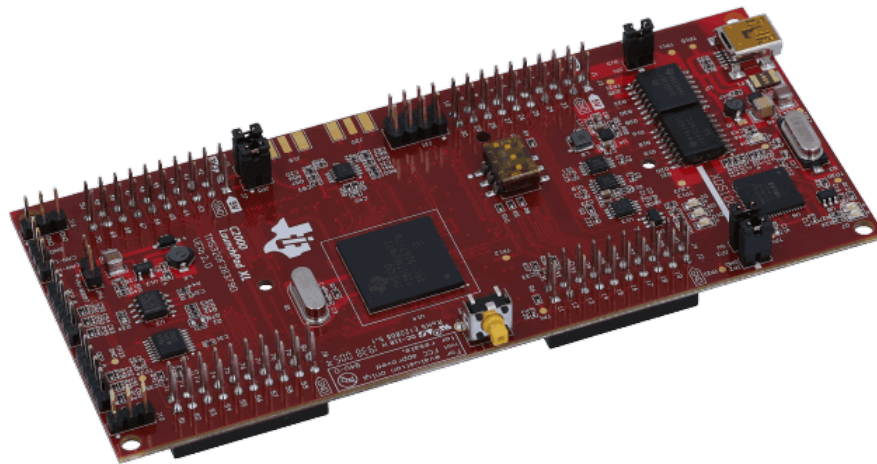

Figure 37: Texas Instruments F28379D LaunchPad
The controller stage of the CRD200DA23N-GMA inverter system was designed around the F28379D LaunchPad™ (LAUNCHXL-F28379D) from the Texas Instruments (TI) C2000™ family of real-time microcontrollers. The LaunchPad, shown in Figure 37, plugs directly into the controller PCB as shown in Figure 7. The on-board isolated XDS100v2 USB-to-JTAG debug probe is a convenient interface to run and debug firmware without additional hardware by connecting a USB-Mini-B cable between *CON1* and a host computer. More information about running firmware is provided in the next section. While the CRD200DA23N-GMA inverter was exclusively tested with the F28379D LaunchPad, theoretically, any microcontroller daughter card with an equivalent pinout could be used.